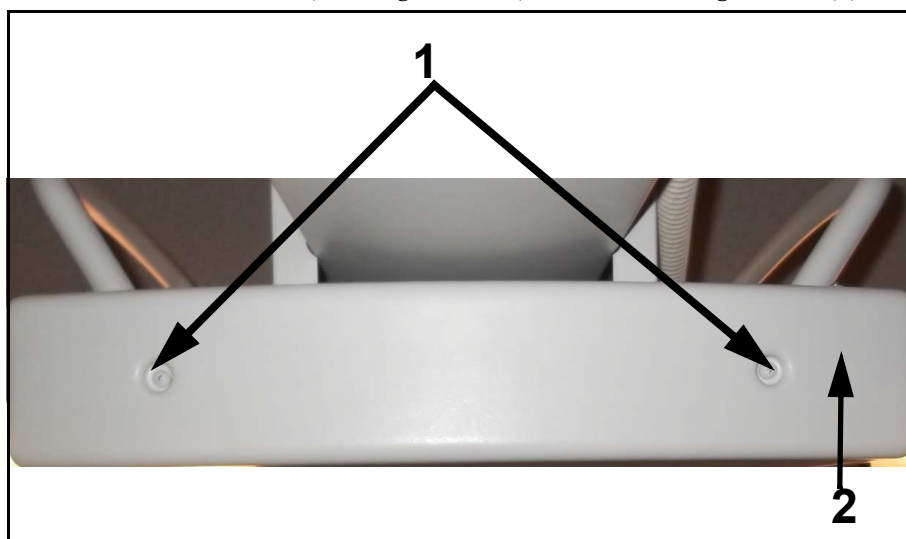

Figure E-40. Bottom Cover Screws
- 49** Reinstall bottom cover (1 in Figure E-40) with mounting screws(1).